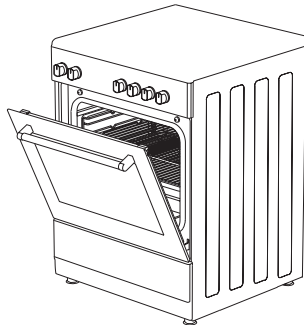

Figure 10
3. Place the safety panel under control panel by opening the oven front cover glass. (figure 10)